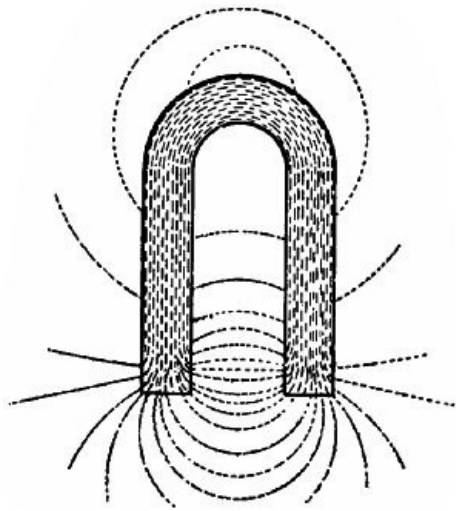

FIG. 50.—Permanent magnet, and the "lines of force" emanating from it.
Magnets are either (1) straight, in which case they are called bar magnets; or (2) of horseshoe form, as in Figs. 50 and 51. By bending the magnet the two poles are brought close together, and the attraction of both may be exercised simultaneously on a bar of steel or iron.
In Fig. 50 are seen a number of dotted lines. These are called *lines of magnetic force*. If you lay a sheet of paper on a horseshoe magnet and sprinkle it with iron dust, you will at once notice how the particles arrange themselves in curves similar in shape to those shown in the illustration. It is supposed (it cannot be *proved*) that magnetic force streams away from the N. pole and describes a circular course through the air back to the S. pole. The same remark applies to the bar magnet.